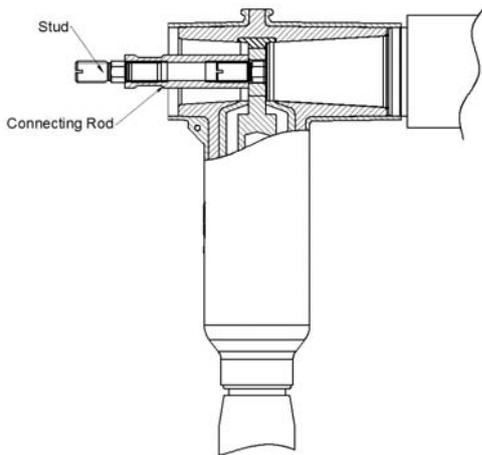

Fig.12
- Step 3.** Tighten the rod and stud assembly to approximately 50-55 Nm, using a 27 mm open end wrench. (See Fig. 12) (Slotted outwards)